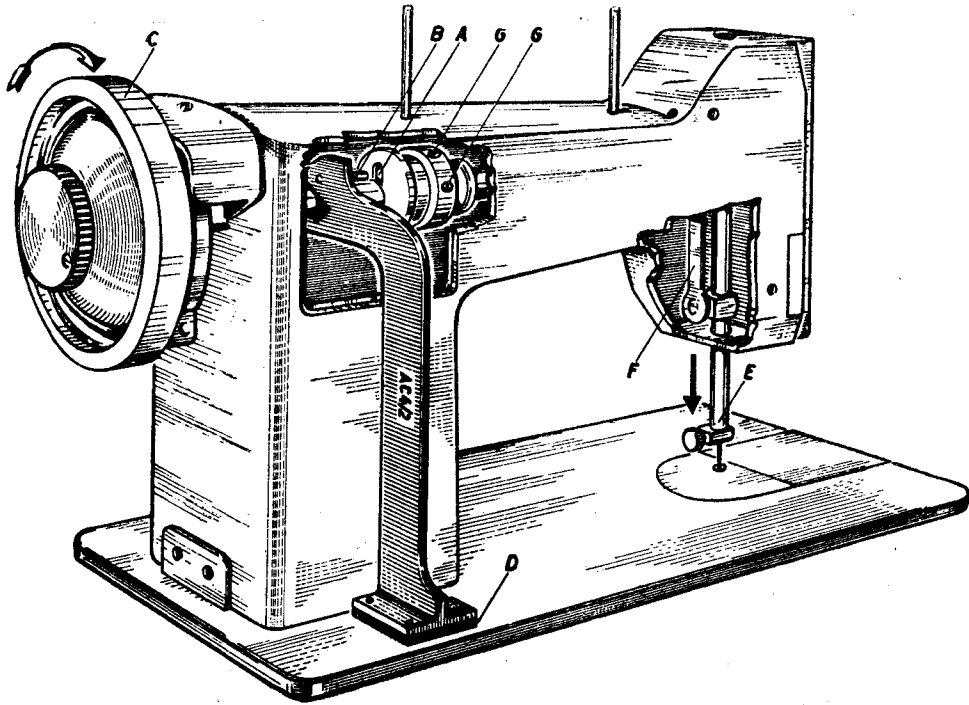

Fig. 36
1. Introduce the pin « B » which is fastened to the upper part of this gauge (see Fig. 36) into the corresponding timing hole of the feed eccentric « A ».
2. Turn the balance wheel slowly in the direction indicated in Figure 36 until the fibre base « D » of the timing gauge « C » rests firmly on the bed plate of the machine, as indicated in Figure 36.
4. If the requirements outlined in the preceding paragraph are not met, loosen the two screws « G » in the feed eccentric « A », and while leaving the timing gauge supported by the bed plate and keeping it inserted in the timing hole of the feed eccentric « A », turn the balance wheel « C » slowly in the direction indicated in Figure 36 until the needle bar « E » reaches its lowest position. Firmly tighten the two screws « G » after this adjustment. The timing procedure outlined in the preceding paragraphs will induce the feed dog move in correct relation to the needle bar.